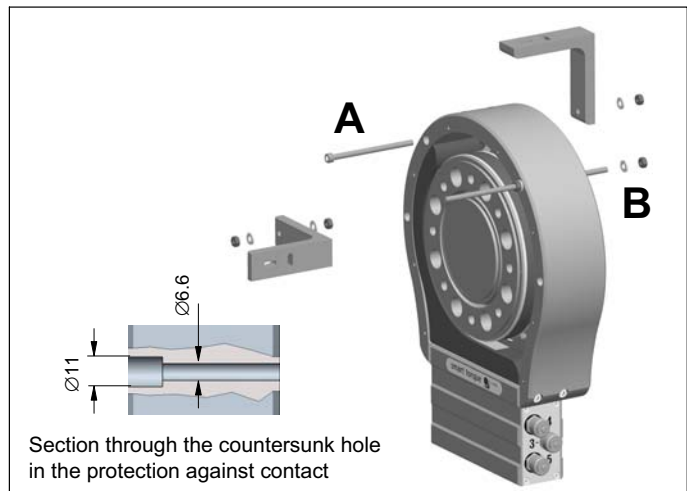

Fig. 8.12 Supporting the stator with an angle bracket (5 kN · m and 10 kN · m)
With the T12/5 kN · m and T12/10 kN · m torque transducers, we recommend additionally supporting the stator against contact. Fig. 8.12 shows an example of how to attach an angle bracket with a bolt (A) or with a threaded rod (B). Note that in this case, the cover plates cannot be fitted.